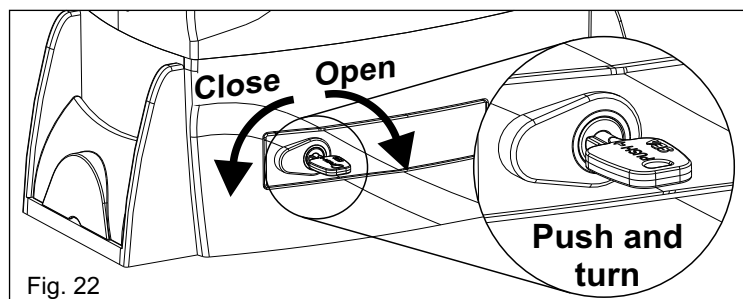

Fig. 22
- Insert the key, **push** and turn about 90° clockwise (Fig. 22).